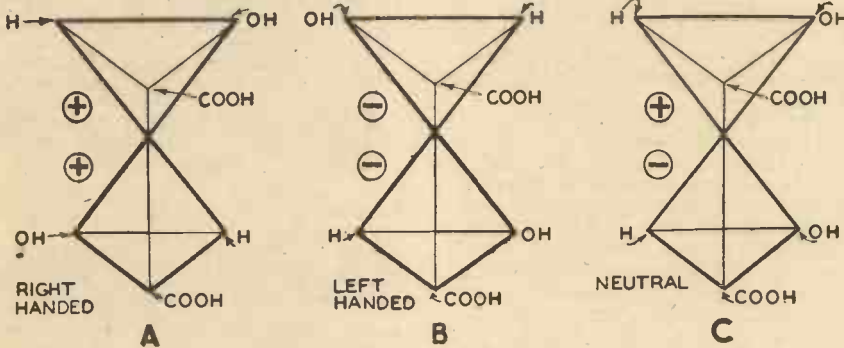

Fig. 1.—Stereo-isomers of tartaric acid.
A particularly interesting case in point is that of tartaric acid, which is built up of two hydrogen atoms H, two hydrate radicals (OH), and two acid radicals (COOH). Fig. 1 shows three different ways in which these various components can be arranged in space to form isomeric crystals of tartaric acid. Each crystal is identical, so far as number and content are concerned, but the H and OH groups in A and B are "mirror images" of each other. The C crystal differs from either of the other